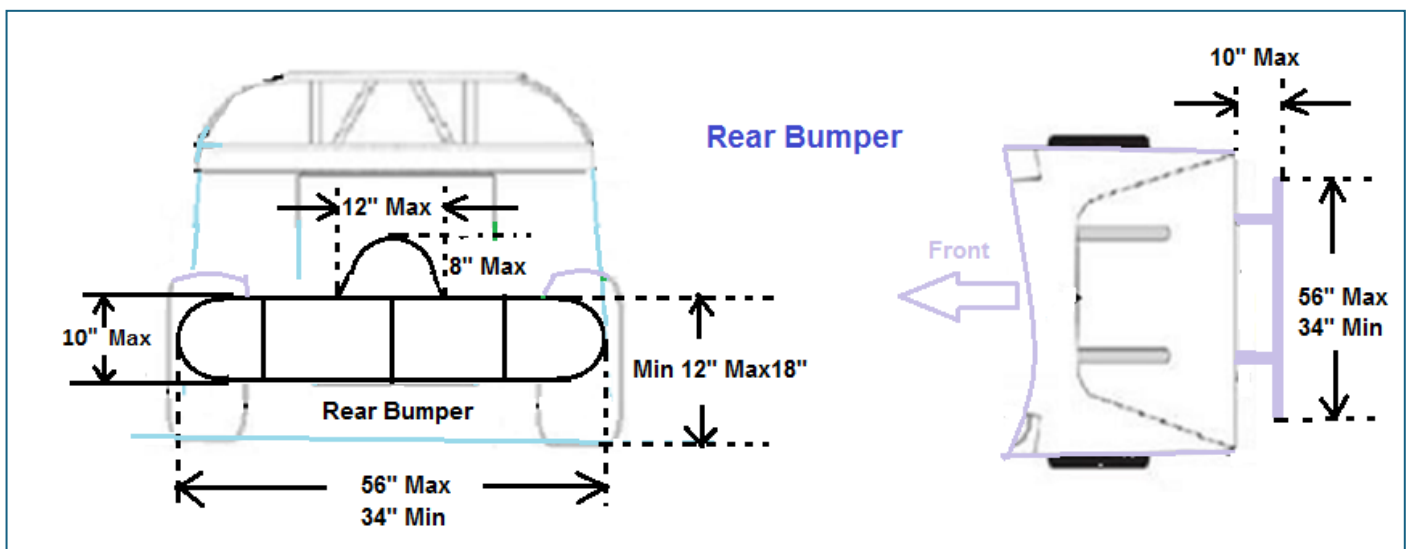

Figure 12
- 16.2** Rear bumper maximum width 56 inches or minimum width 34 inches. Rear bumper must have two horizontal bars combined with a minimum of three vertical sections that form a continuous hoop (no protrusions outside of this hoop). Rear bumper max height between outermost edges of horizontal bars is 10 inches. The distance from the ground to the top of the rear bumper must be 12 inches minimum or 18 inches maximum. Rear bumper must not extend more than 10 inches behind rear-most point of the body panels (*Figure 12*).
- 16.3** A hoop is allowed on the top side of the rear bumper bar no wider than 12 inches and a maximum of 8 inches high. Must be manufactured from the same material as the rear bar and welded in place. This is an option for push car protection only (*Figure 12*).